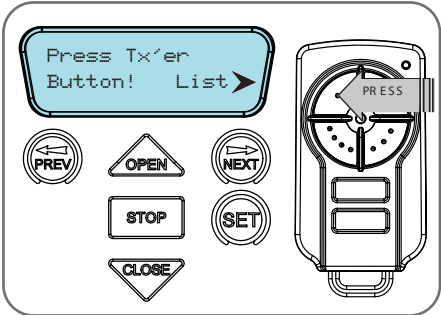

Fig G.2
- c. Press the transmitter once (Fig. G.2).